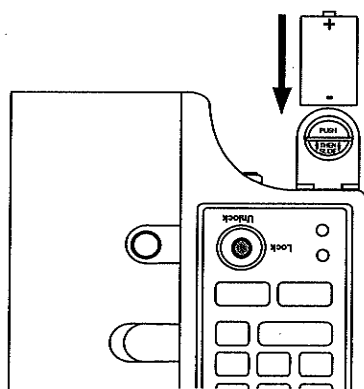

Figure 2-1 • Battery compartment
- Turn the pump upside down, as shown in Figure 2-1.